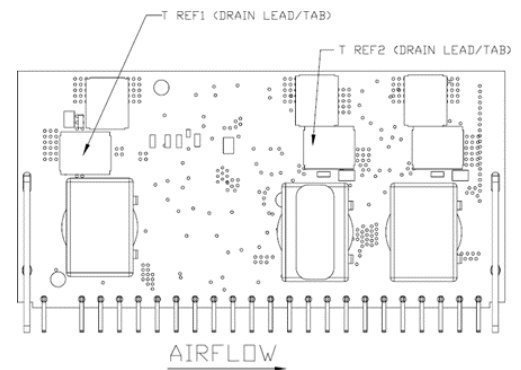

Figure 45. Temperature measurement locations Tref1 and Tref2.
The thermal reference points, T_{ref1} and T_{ref2} used in the specifications are shown in Figure 45. For reliable operation this temperatures should not exceed 120°C.